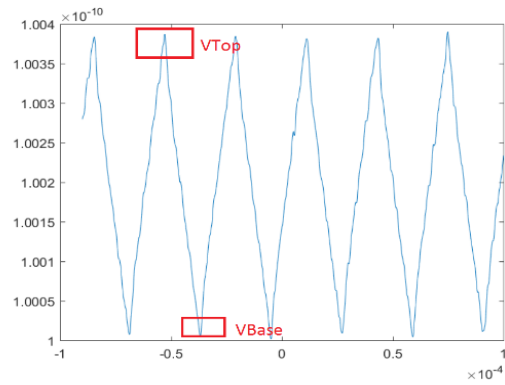

Figure 61 Vtop and Vbase measurements on an SSC triangle profile
- b Measure the Vtop and Vbase for every SSC triangle profile, as shown in Figure 61.